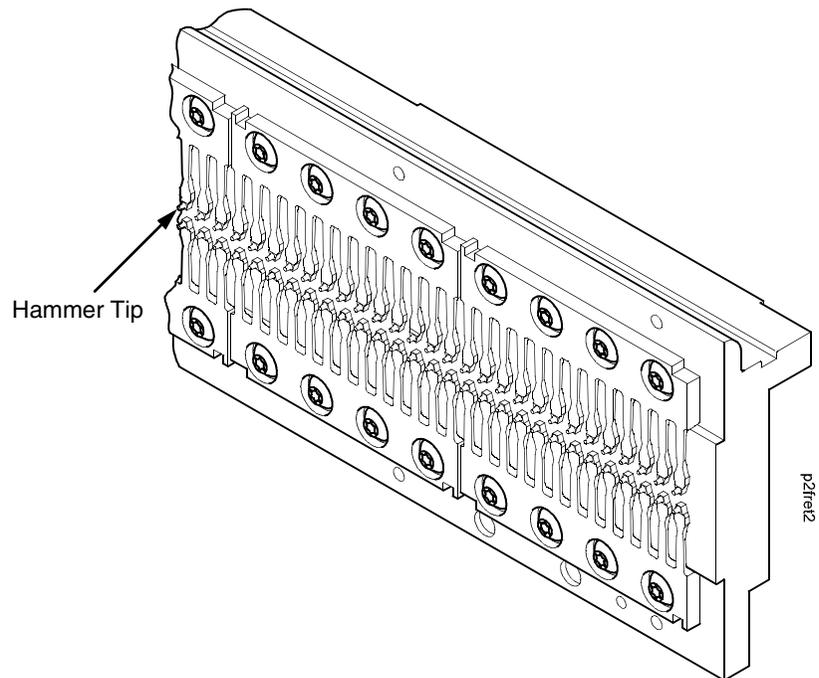

Figure 5. Cleaning the Hammer Tips
8. Using a stiff, non-metallic brush (such as a toothbrush), gently brush the tips of the hammers to remove lint and ink accumulations. Vacuum up any residue. (See Figure 5.)